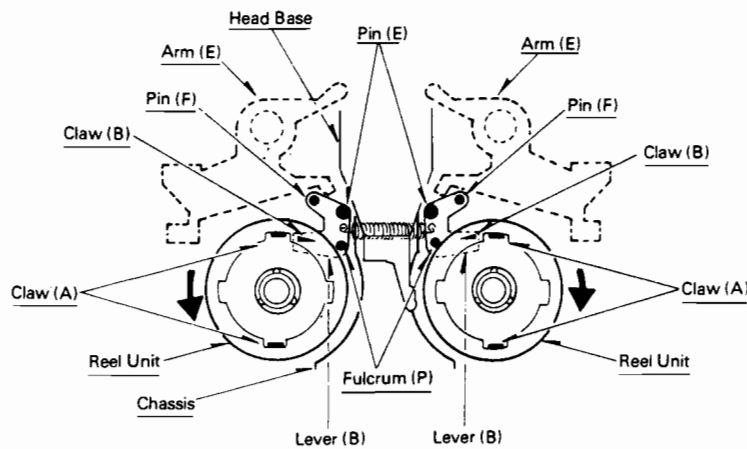

Fig. 7
• **Anti-reel reversal mechanism (Fig. 7)**
1. Claws (A) and (B) serve to prevent the Reel Units from reversing owing to difference in torque between them before the tape is wound up, and the sensing mechanism is activated.
2. Claw (A), while rotating in the arrowed direction together with the Reel Unit, flips Claw (B) protruding from Lever (B) to continue rotation. However, Claw (A), in reversing its rotation, is caught by Claw (B), with the result Lever (B) is turned toward the Chassis side around Fulcrum (P). Pin (E) engages the Chassis to prevent Lever (B) from turning, causing reverse rotations, if any, to be brought to a stop within 180°.
3. In PLAY mode, the Head Base advances to rotate Lever (B) outside the Chassis so that it will not be caught by Claws (A) and (B). In F.F./REWIND, Pin (F) is made to rotate outside the Chassis by Arm (E), so that Lever (B) will not be caught by Claws (A) and (B).